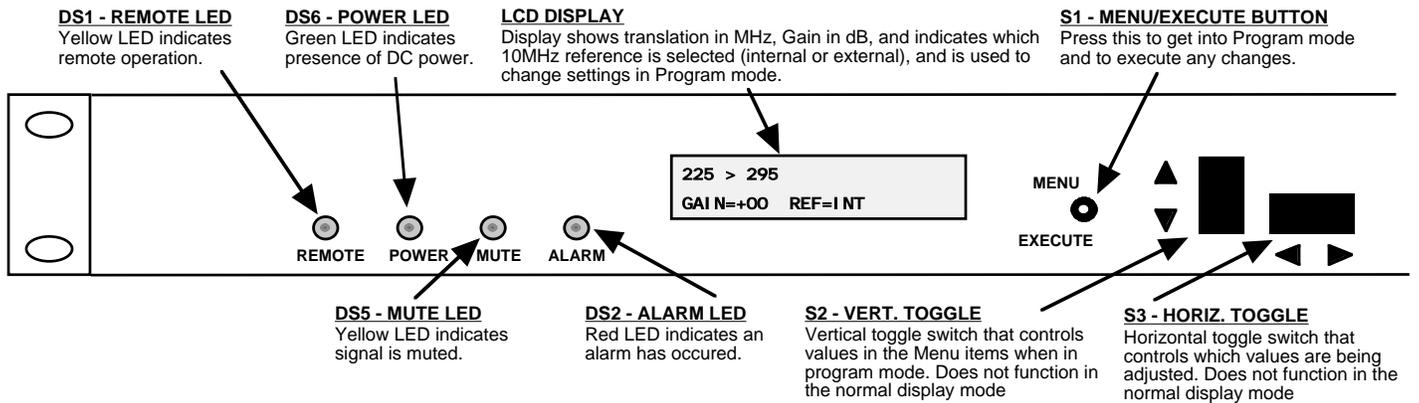

FIGURE 2.2 2083-22 Front Panel Controls and Indicators
6. Be sure DS6 (green, DC Power) is on and DS2 (red, Alarm) is off (Figure 2.2).
Alarm indications appear on the LEDs (see figure 2.2).